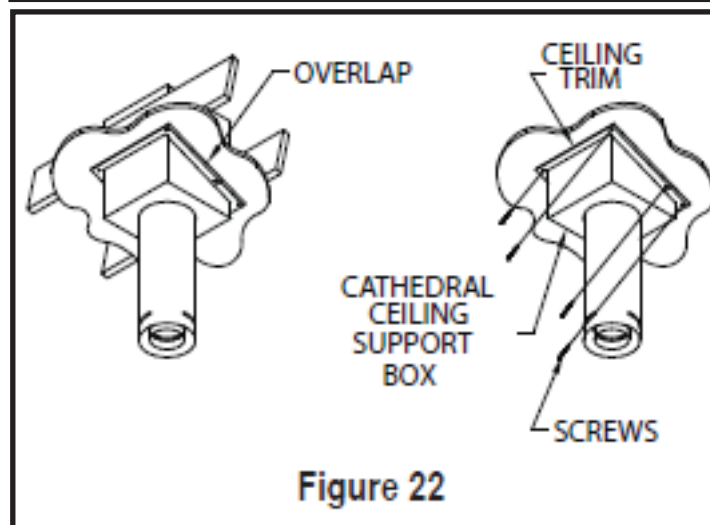

Figure 22
**Step 8.** Install the black Trim Collar around the outside of the Cathedral Ceiling Support Box. The two pieces of the Trim Collar slide over one another to allow for easy adjustment around the Support Box. Using the six (6) screws provided, secure the four corners and the overlapping sections of the Trim Collar to the underside of ceiling. You may want to pre-drill the holes for the overlapped sections for ease of installation (Fig. 22).